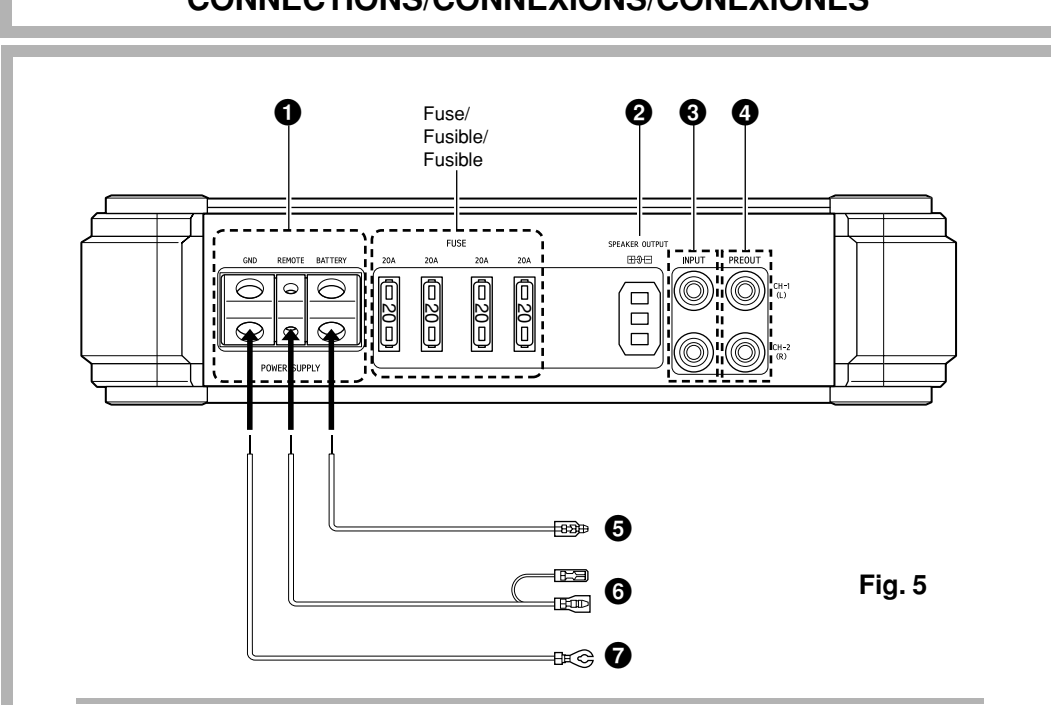
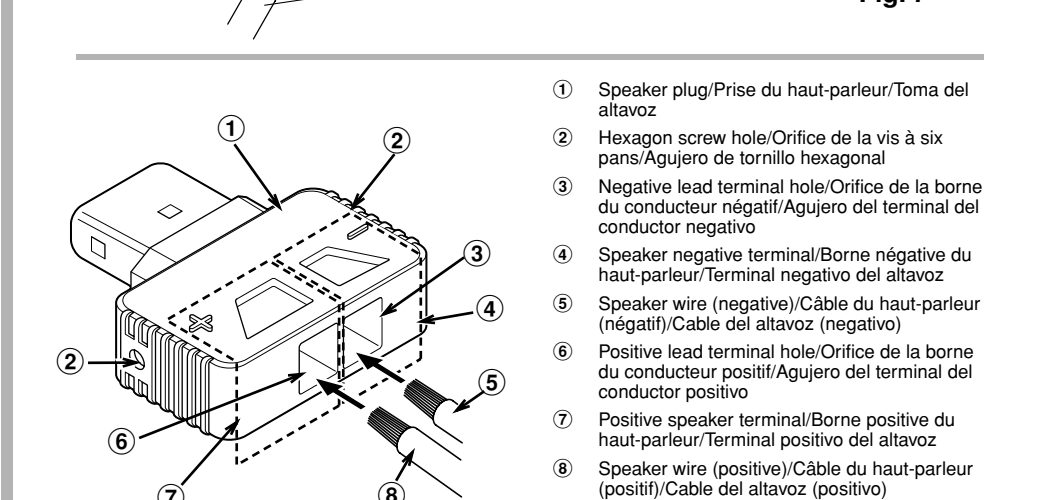

Fig. 5
Fig. 8
CONNECTIONS (Fig. 5 - Fig. 8)
- Insert the exposed conductor of the speaker wire into the wire terminal hole. Refer to Fig.8.